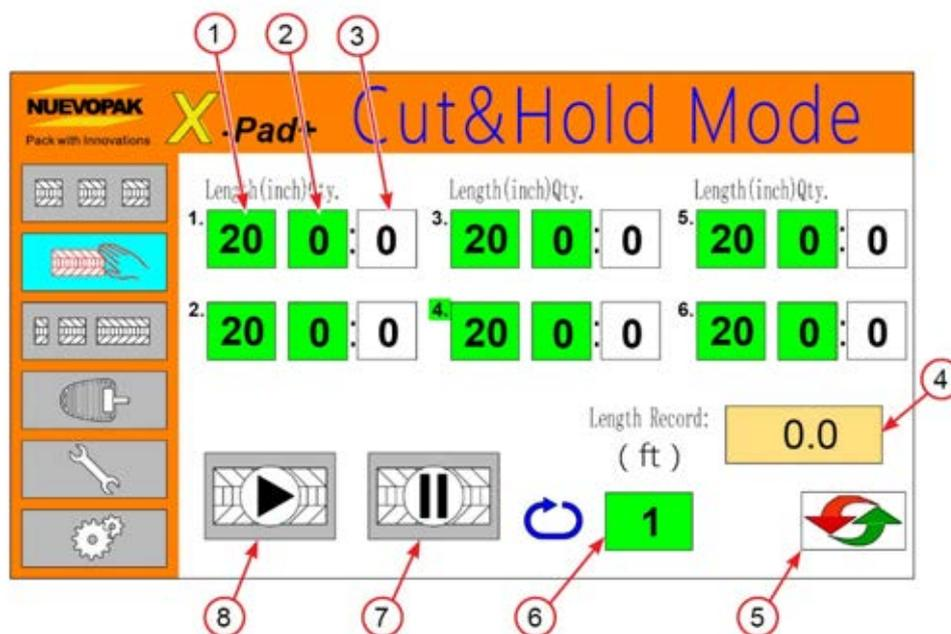

Figure 33 Cut & Hold Screen
4. To dispense the sequence, press the **Start Key** (refer to Figure 33).